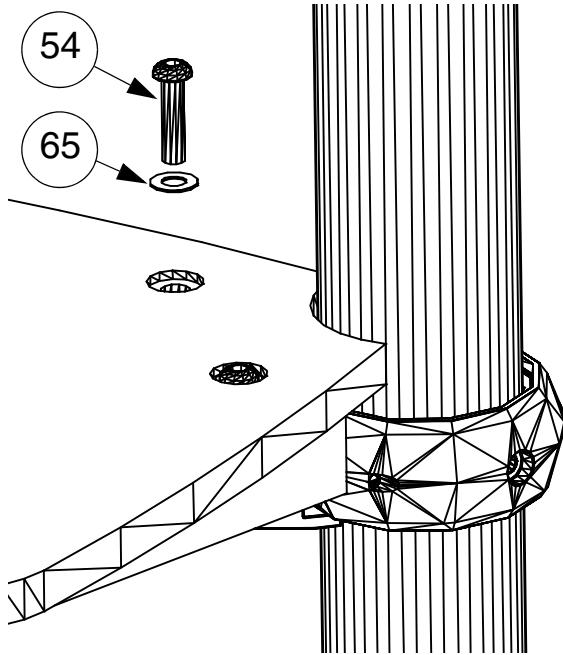

FIG.A1
- 1) Position Deck - Plastic Slide (item 24) onto Deck Frame as shown and secure using 7 off M10 x 40 Resistorx bolts (item 54) and M10 Washers (item 65) in positions shown. See FIG.A1 & A2.